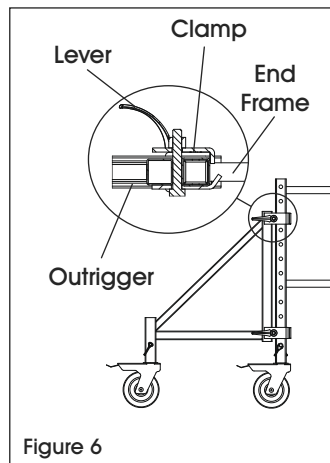

Figure 6
3. Install outriggers (C) by clamping to end frames perpendicular to the side braces. Clamps must be tight and casters must make contact with the floor. Set caster brakes. (See Figure 6)